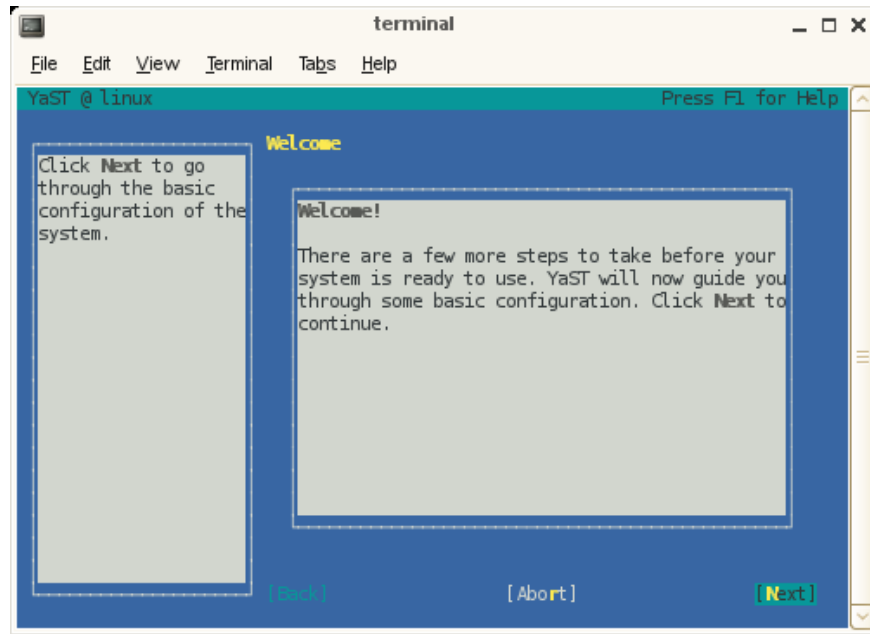

Figure 2-2 YaST **Welcome** Screen
6. After the reboot completes, the YaST first boot installation tool starts and a **welcome** screen appears, as shown in Figure 2-2 on page 37. Click on the **Next** button to proceed.